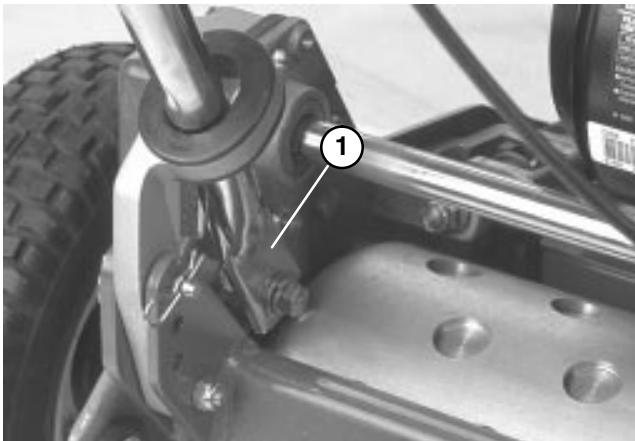

Figure 2
5. Squeeze handle ends inward and install on mounting pins (Fig. 2).
6. Secure handle ends to mounting pins with capscrews, washers and lockwashers previously removed (Fig. 2).
7. Secure bottom of handle arms to each side of mower with capscrews and locknuts, previously removed (Fig. 2). Make sure bushings are installed in handle arm mounting holes. Do not overtighten capscrews as handle arms must pivot freely.
8. Secure handle arms to rear of frame with hair pin coppers and ring pins previously removed (Fig. 2).
1. Remove hairpin coppers from ring pins on each side of mower (Fig. 2).
2. While supporting handle, remove ring pins from each side and raise or lower handle to desired operating position. (Fig. 2).